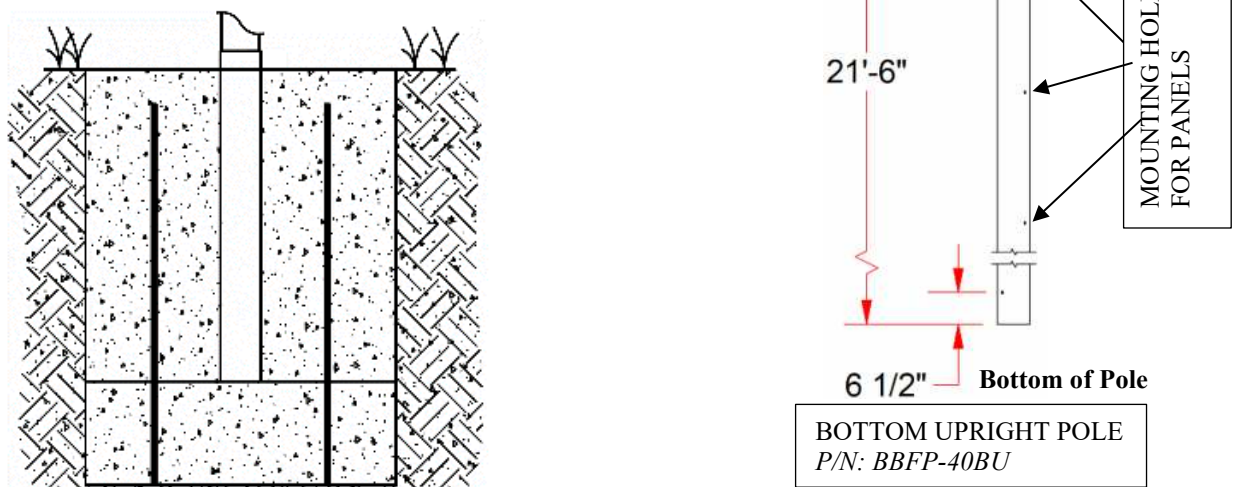

FIGURE: 3
1. Identify the bottom end of the bottom pole section and insert into the sleeve (see figure 3).